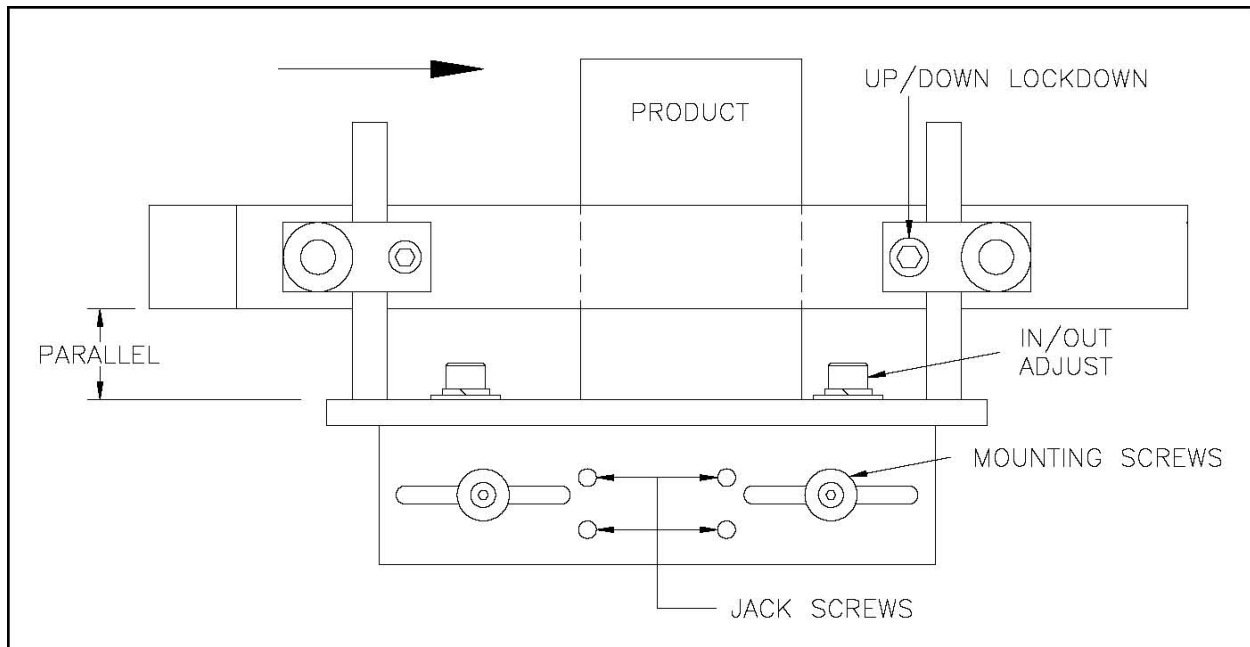

Figure 52 Pressure Bar Adjustments
4. Refer to Figure 52 and check that the pressure bar is parallel to the product.